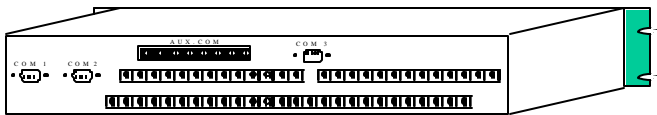
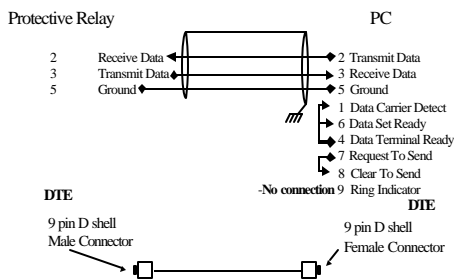

Figure 3 - Rear Panel Com Port Location.
Figure 4 - DPU2000(R), TPU2000(R), or GPU 2000(R)
The RS 232 ports on the protective relay are designated as Com 0, Com 1, Com 2, and Com 3. Com 0 is located on the front of the unit. As illustrated on Figure 3, Com ports 1 through 3 are located on the back of the unit. The inherent design of the RS 232 electrical interface is designed for point to point communication over copper medium. The RS232 pin designations on the DPU2000(R), TPU2000(R), or GPU 2000(R) is illustrated in Figures 4 and 5.
A cable diagram is illustrated in Figure 4. Figure 4 shows the direction of communication signal transmission and the gender of the connectors used in constructing a communication cable.
Connection of a PC to a DPU/TPU/GPU requires cable modification since the interconnected devices are both DTE. The same cabling would be utilized if one would connect two DCE devices. The classifications of DTE/DCE devices allow the implementers to determine which device generates the signal and which device receives the signal. Studying Figure 4, Pins 2 and 3 are data signals, pin 5 is ground whereas pins 1,6,7,8,9 are control signals. The arrows illustrate signal direction in a DTE device. The family of DPU/TPU/GPU protective devices do not incorporate hardware or software “handshaking”.
The DPU/TPU/GPU devices do not incorporate handshaking, therefore, the control lines may be ignored as illustrated in Figure 4. However, some PC software utilizes handshaking, thus the port on the personal computer may require a special hardware configuration of the cable to the port. Consult with the software vendor to determine RS232 control and buffering requirements and the need for signal jumpers required in RS232 cabling.